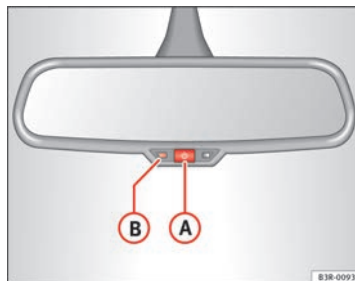

Fig. 103 Interior mirror with anti-dazzle setting: Indicator lamp and on/off switch ▶
- Press button **(A)** ⇒ fig. 103. Indicator lamp **(B)** goes off.
- Press button **(A)** ⇒ fig. 103. Indicator lamp **(B)** turns on.